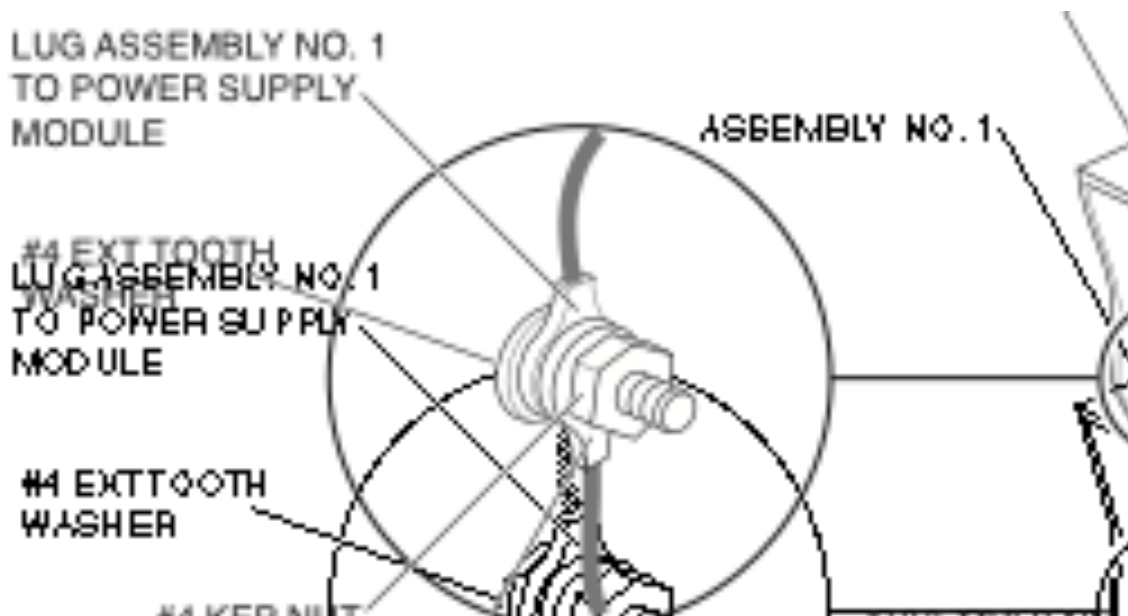

Figure 3. Wiring Diagram
8. Bolt both wire assemblies to the rear panel as shown in Figure 3.